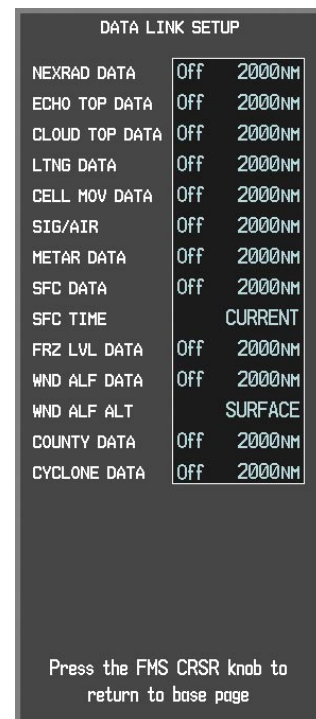

Figure 6-5 Weather Data Link Page Setup Menu
- 4) Turn the large **FMS** Knob or press the **ENT** Key to scroll through product selections (Figure 6-5).